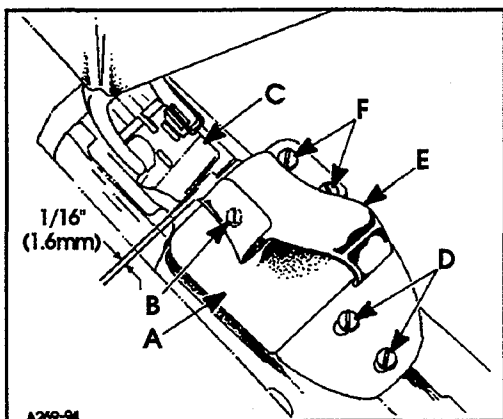

FIG. 22
Slide folder (A, Fig. 22) on arm, until it is stopped by stop screw (B). The folder should be as close to the front of presser foot (C) as possible, making sure to avoid the presser foot contacting the folder when sewing across seams. Margins should be approximately 1/16" (1.6mm). If adjustment is necessary loosen screws (D) to move entire folder left to right or front to back as required. If just adjustment of upper scroll (E) is needed loosen screws (F) and position scroll to attain proper seam margin.